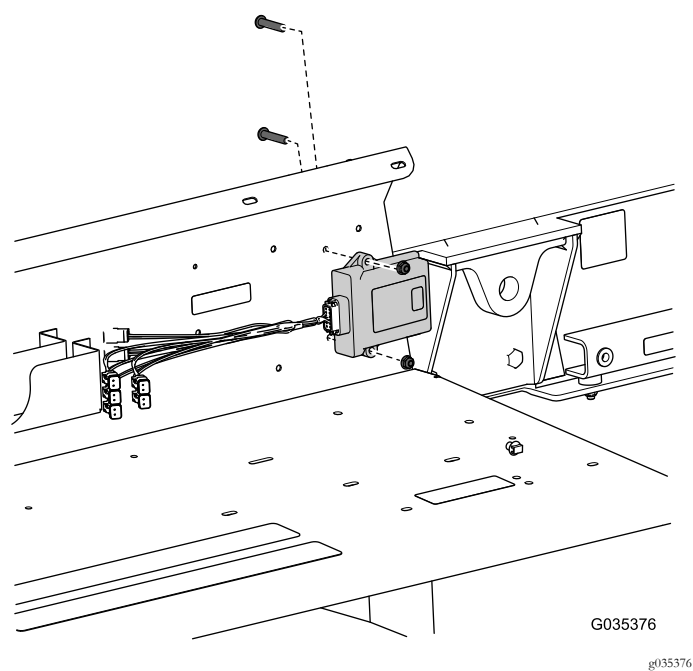

Figure 3
7. Remove the controller and wire harness from the fender guard (Figure 3).